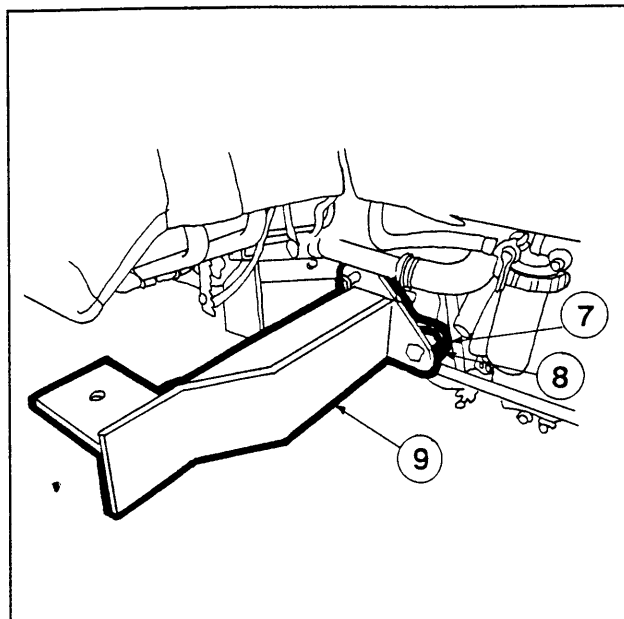

Figure 7
14. If your tractor is not equipped with a Kubota mid-mount mower take the front bracket spacers (7) provided. Position one against the three-hole bolt pattern on each side of the engine housing, directly below the operator foot platform. (see Figure 7)
15. Take the front bracket sleeves (8) and position one against each hole of the mid-mount mower brackets or front bracket spacers (7). (see Figure 7)
16. Take the left front bracket (9) and position it against the front bracket sleeves (8). Ensure the cab mounting plate is towards the rear and outside. Loosely bolt the bracket, through the sleeves and spacer(7)/mid-mount mower
subframe, to the engine housing using the 12x75x1.75mm hex bolts, and 1/2" lockwashers provided. (see Figure 7)